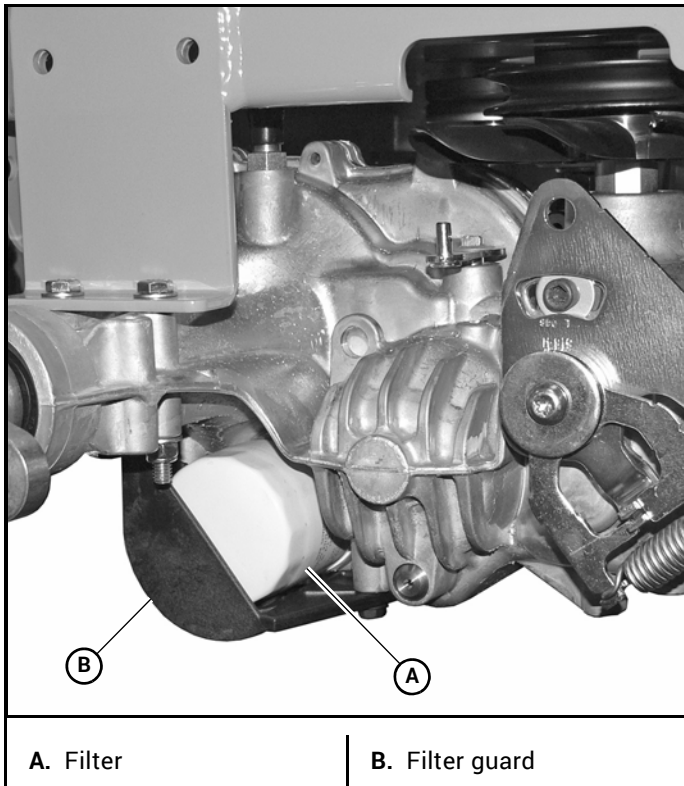

Figure 4-4
Initial system oil and filter change **must** be after the first 75 hours of use or one (1) year whichever comes first. Thereafter, replace filter and oil in each transmission **every two (2) years or 200 hours, whichever comes first.** **NOTE:** The filter guard must be removed to access the filter. Figure 4-4
Each transmission's filter is located per Figure 4-4. A standard oil filter wrench is used to change filter, threads are right handed. **Use a Hustler® approved filter element only.**